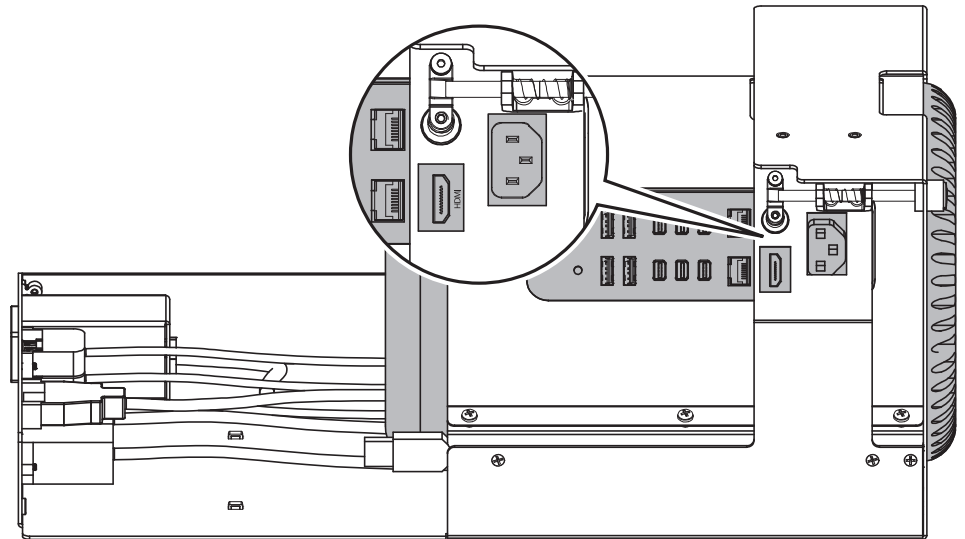

Figure 7
- Adjust the Mac Pro within the computer mounting module so that its power and HDMI ports are centered in the bracket openings (Figure 7).